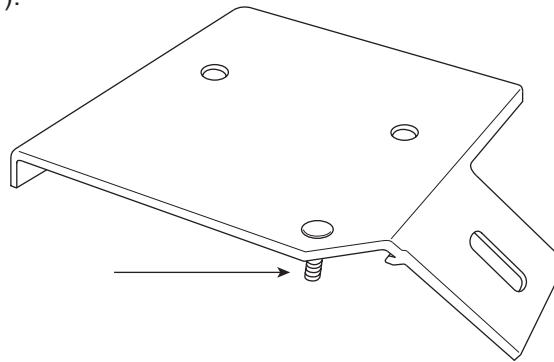

fig. 7
DRIVERS SIDE ONLY - Insert 5/16" clinch bolt (K) into the small hole of the lower bracket before attaching the lower bracket to the air spring. Supporting the lower bracket will ease installation of the clinch bolt. Use a hammer to drive the bolt into the hole in the lower bracket (Fig. 7).
Be sure to install the assembly with the clinch bolt on the driver side. Refer to diagram (Fig. 7) on page 6.